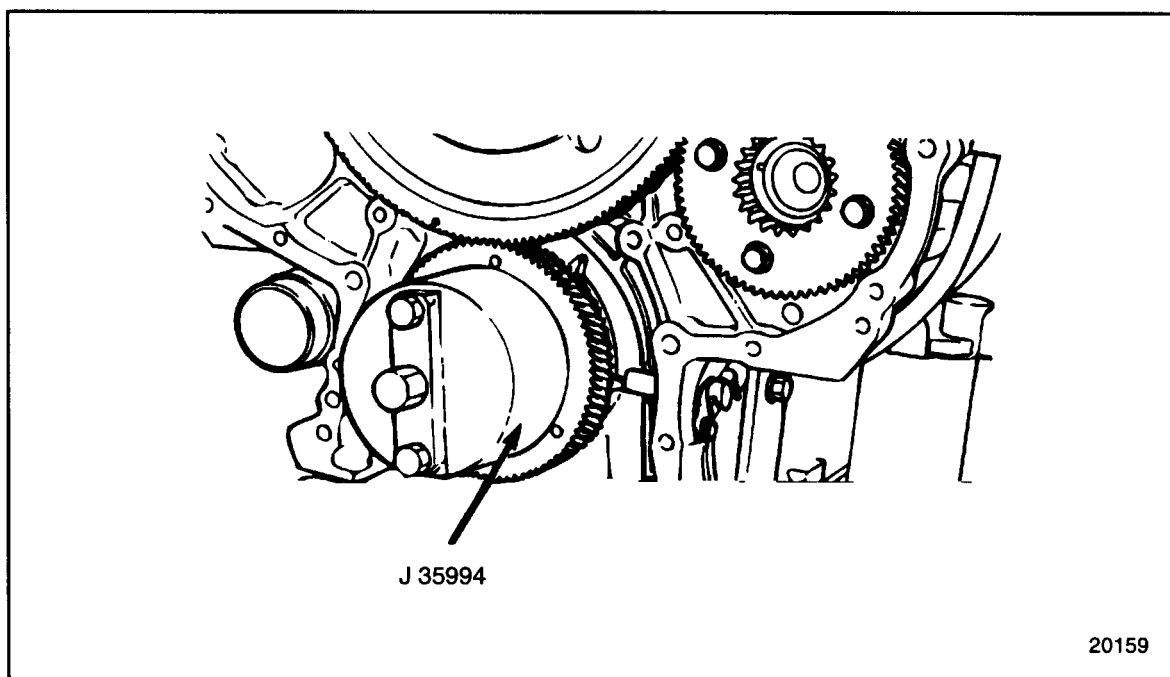

Figure 1-180 Crankshaft Protector Installation
11. Install the crankshaft protector, J 35994, to the oil seal contact area of the crankshaft. This will help to protect the crankshaft seal surface when removing the bull gear and camshaft idler gear assembly. See Figure 1-180.